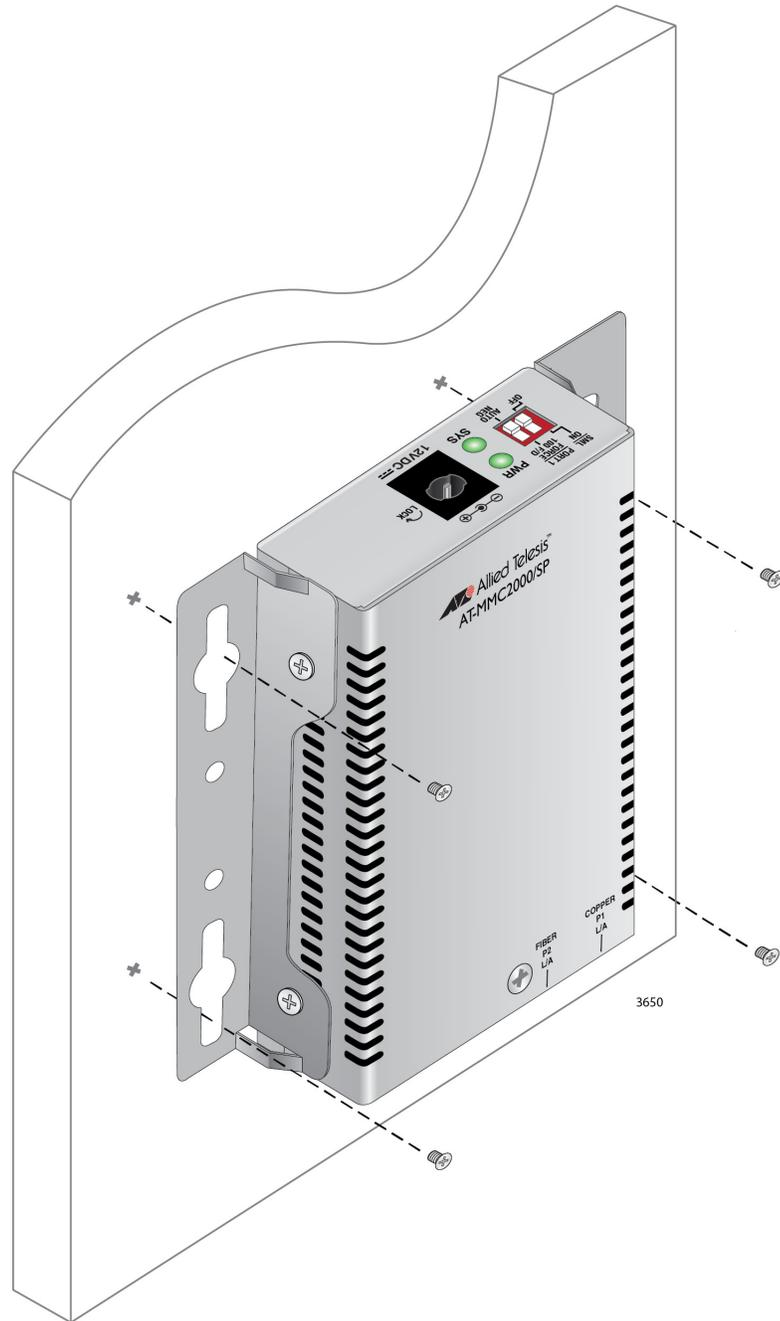

Figure 21. Securing the Media Converter to the Wall
5. Secure the media converter to the wall using four wall mounting screws (not provided). See Figure 21 on page 45.